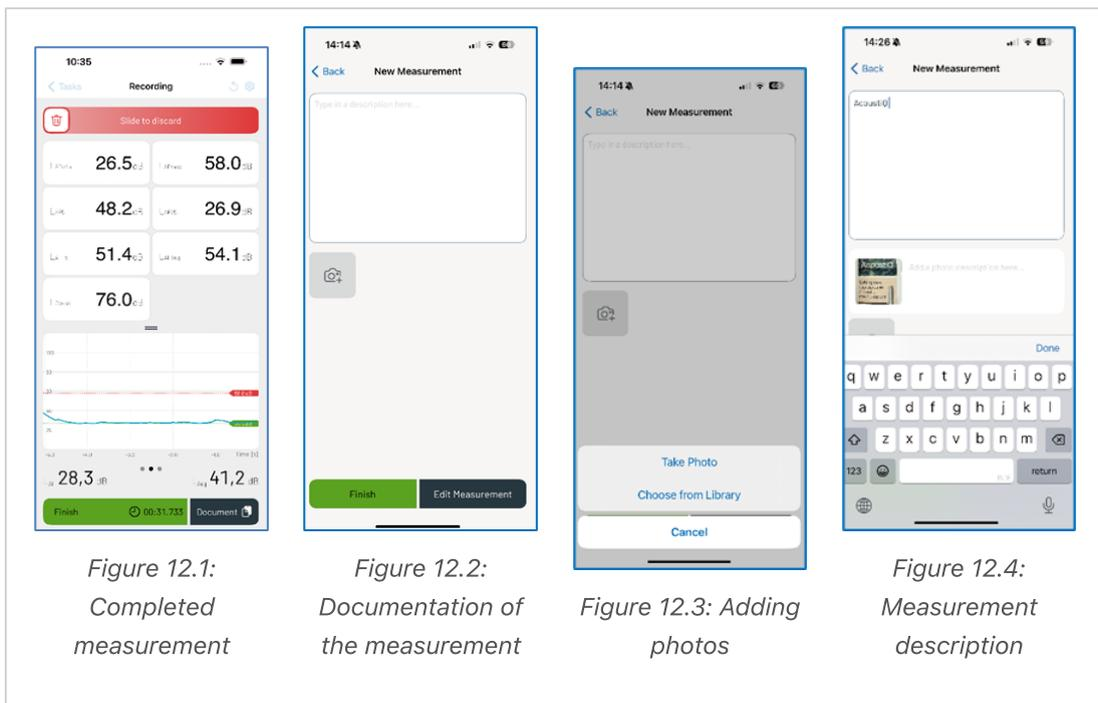

Figure 12.1:
- If everything is okay, you can now document the measurement. Press Document at the bottom to directly add photos and notes to your measurement (Figure 12.1). A description can be added in the upper text field (Figure 12.4). By pressing the "Photo icon +" you can take a photo directly or select one from the photo library of already saved pictures (Figure 12.3). The notes and photo descriptions are used for later report generation. Up to 8 images can be assigned to one measurement. Make sure to accept the photo description with "Done"